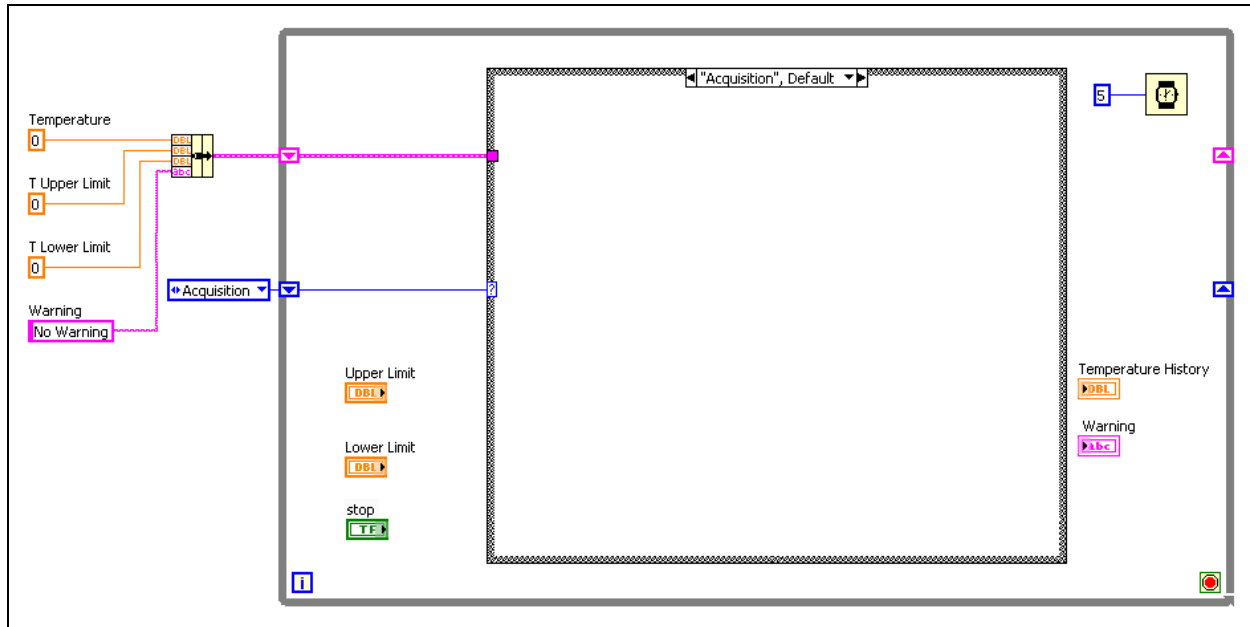

Figure 11-13. Setting up the State Machine
- Place a While Loop from the **Structures** palette on the block diagram, as shown in Figure 11-13.
7. Confirm that your block diagram is similar to the one shown in Figure 11-13.